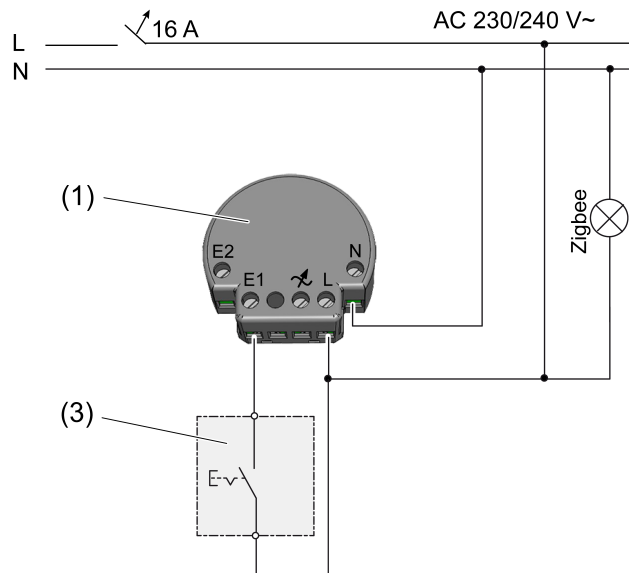
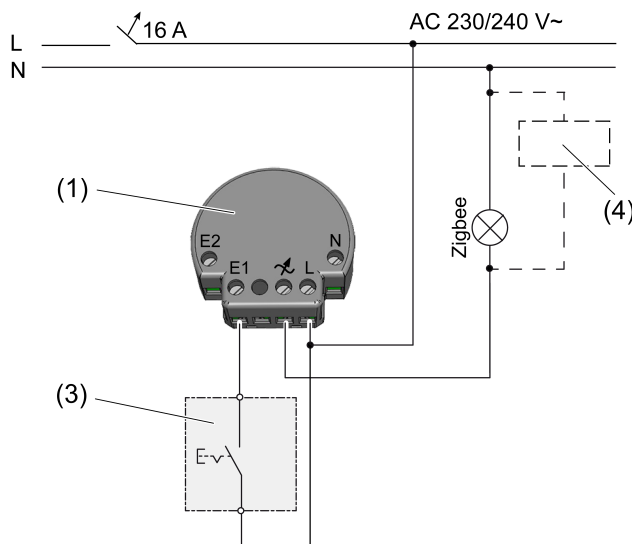
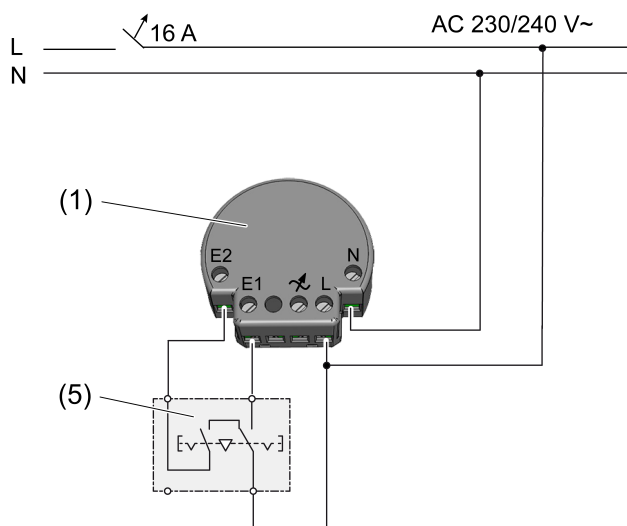
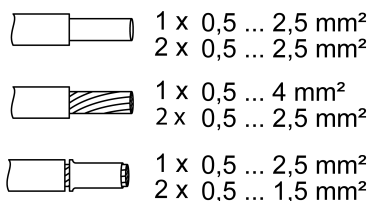

Figure 2: Switch connection diagram (with neutral conductor)
Figure 3: Switch connection diagram (without neutral conductor)
Figure 4: Venetian blind push-button connection diagram (5)
Figure 5: Clampable conductor cross-section
If there is a neutral conductor, the push-button interface should be connected to it in any case (Figure 2).
When operating without a neutral conductor, the lamp wire must be connected to the load terminal \curvearrowright . With some HV LED Zigbee lamps it may be necessary to connect a compensation module (4) to ensure the power supply of the push-button interface or a trouble-free operation of the lamp (Figure 3).
To connect the push-button interface to a venetian blind push-button for operating curtains, the connection to a neutral conductor is necessary (Figure 4).
- Make the electrical connection according to the connection diagram (Figure 2), (Figure 3) or (Figure 4). In doing so, note the clampable conductor cross-section (Figure 5).
- When connecting without neutral conductor, connect a compensation module (4) if necessary (Figure 3).